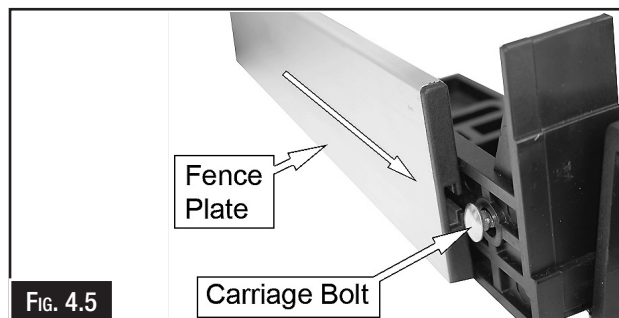

FIG. 4.5
2. Tighten the plastic cap nut to lock the fence plates in position. (Fig. 4.5)